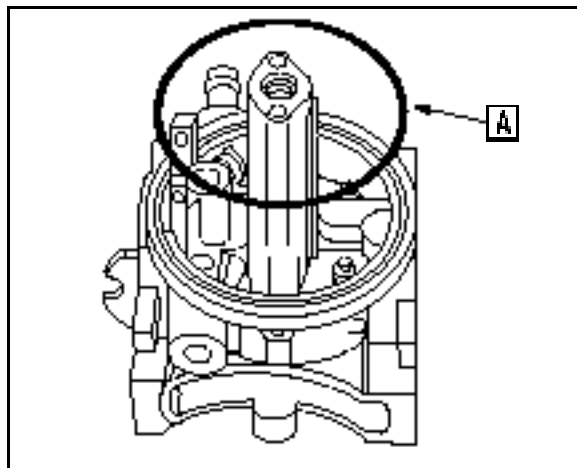

Fig. 96
2. Remove float bowl gasket (A) (Fig. 96).